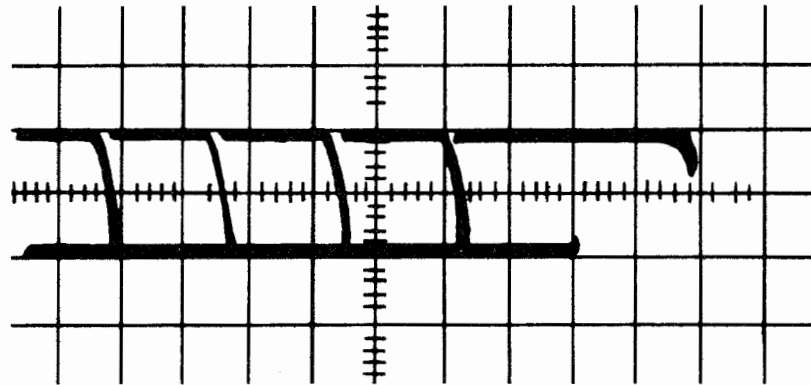

Figure 5.2 Waveform, Method II
2. Insert a test tape containing alternate R's and Y's in the TD. Start the TD and adjust the oscilloscope controls to obtain a stationary display, including a complete character having marking and spacing levels arranged symmetrically with respect to its base line. A sweep rate of approximately 5 ms per cm will display one character. A display similar to that shown by Figure 5.2 should be obtained.